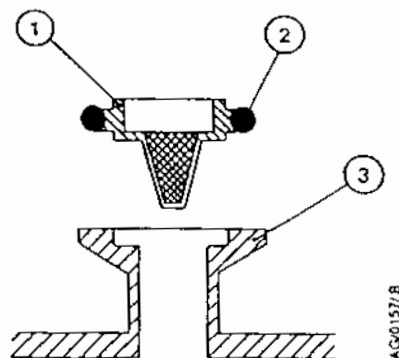

Figure 5 - Inlet-filter Assembly
1. Refer to Figure 5. Disconnect your vacuum system from the pump inlet-port (3) and remove the centring-ring and filter assembly (1) and the 'O' ring (2). Inspect the centring-ring and the 'O' ring. If they are clean, continue at Step 5. If they are not clean, continue at Step 2.
2. Remove the 'O' ring (2) from the centring-ring and filter assembly (1). Do not allow the 'O' ring to come into contact with the cleaning solution.